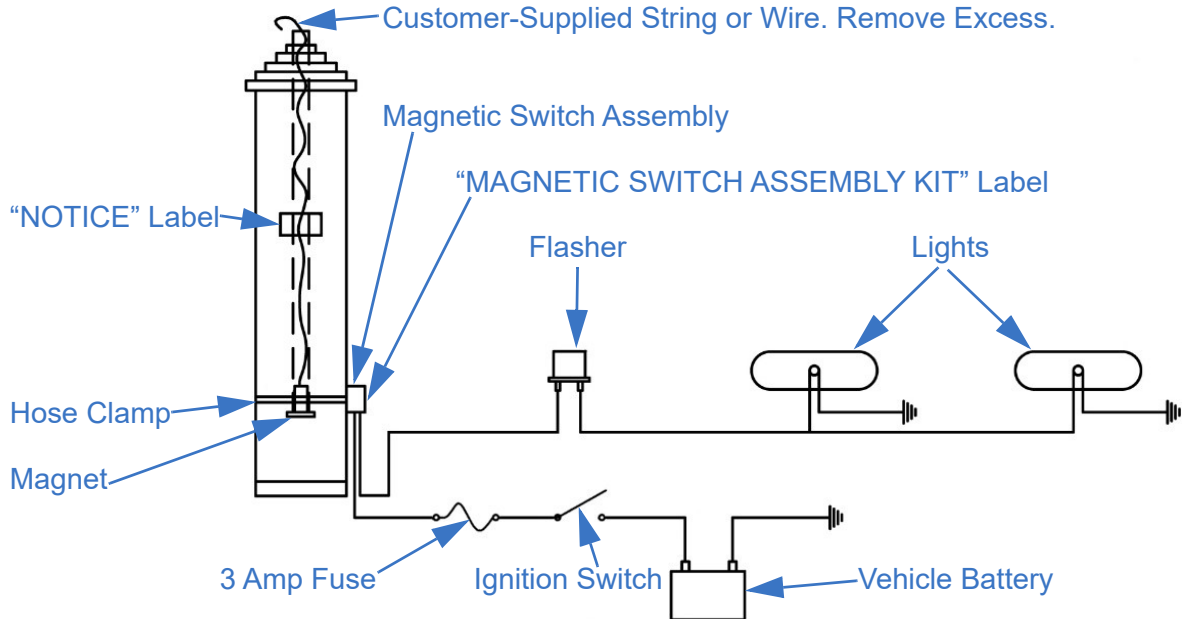

Figure 5-32 Wire the Magnetic Switch Assembly Kit
- a. 7-30: Use 16 AWG stranded wire (customer-supplied) to connect the flasher and lights to the wires exiting the magnetic switch assembly (Figure 5-32).